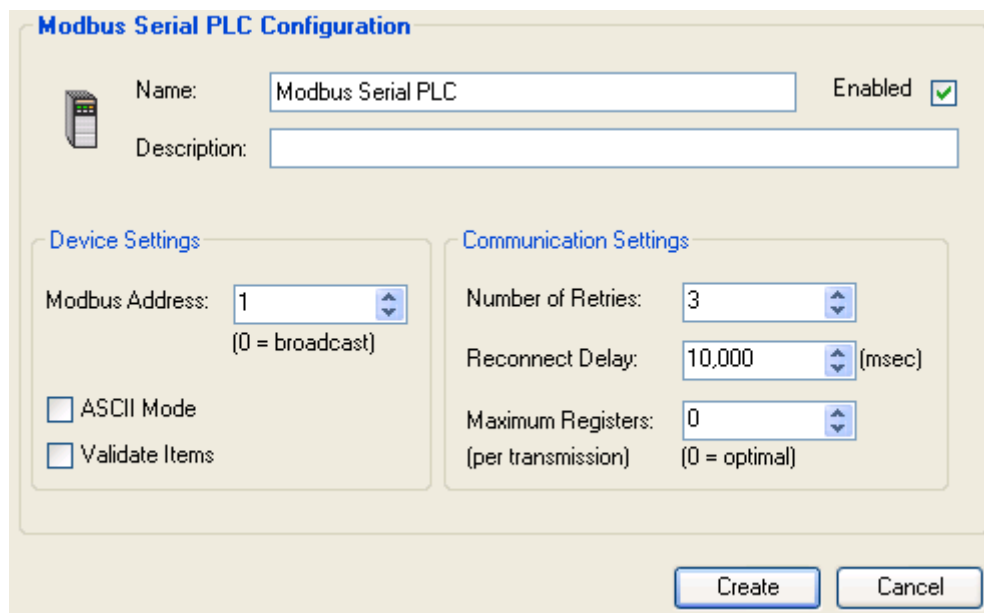

Figure 6 - Modbus Serial PLC Configuration Page
Figure 6 displays the **Modbus Serial PLC Configuration** page.
3. The **Modbus Serial PLC Configuration** page (Figure 6) is displayed in the settings pane on the right side of the screen.